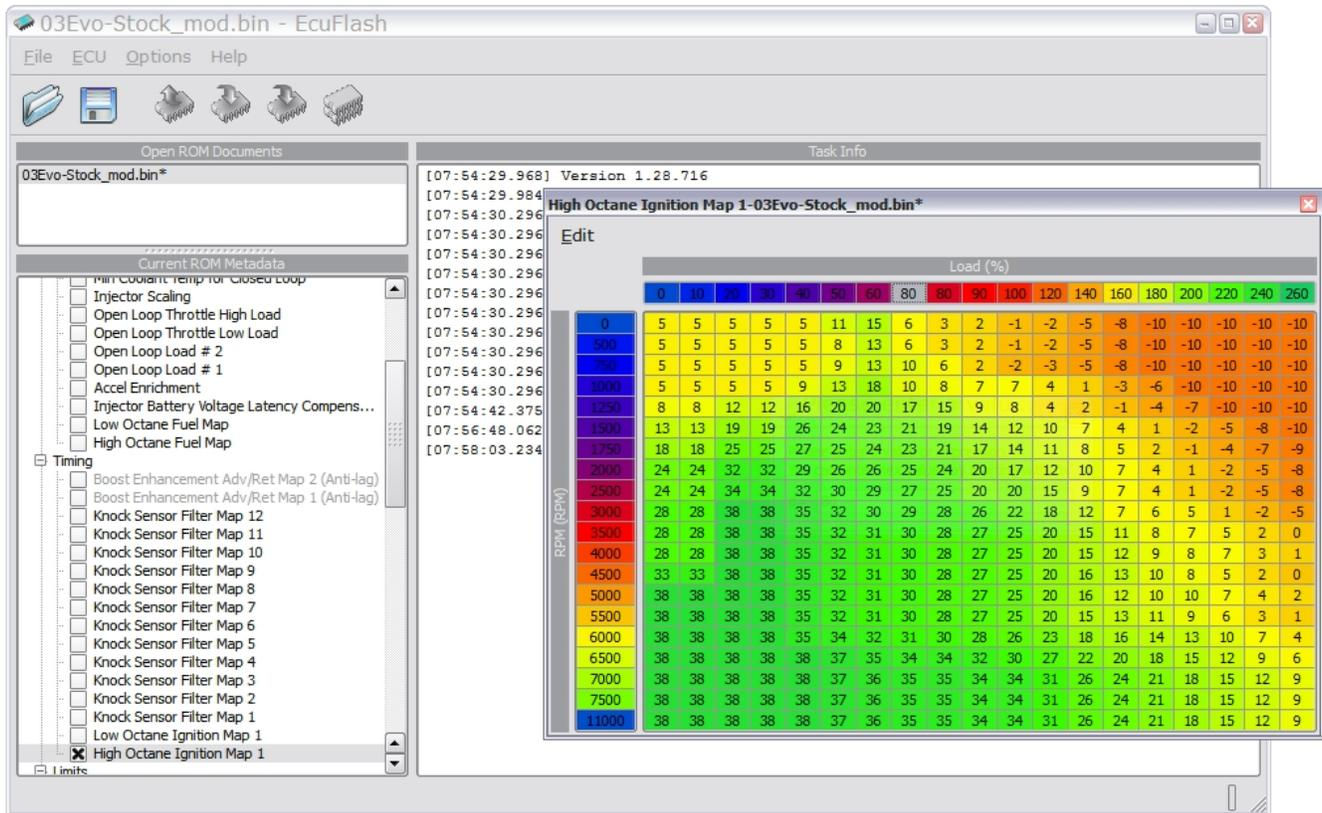

Figure 4, modified 2003 Evolution VIII ECU High Octane Ignition Map, two 80% columns
- The map should now look like the map in figure 4. There should now be 2 columns that have a header value of 80.